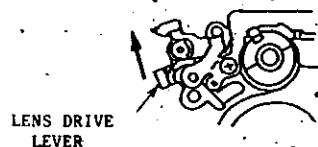

Fig. 9
2) Install the shutter button and release the shutter once. (This is to put the lens at the reset position.) Extend the lens one tooth with the lens drive lever. This is the "infinity" point of this lens. (Fig. 9).